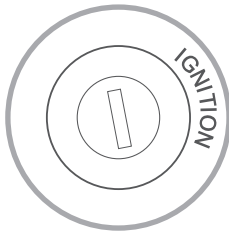

Figure 3-8
3.7 Turn the Ignition to the "ON" Position (see Figure 3-8)